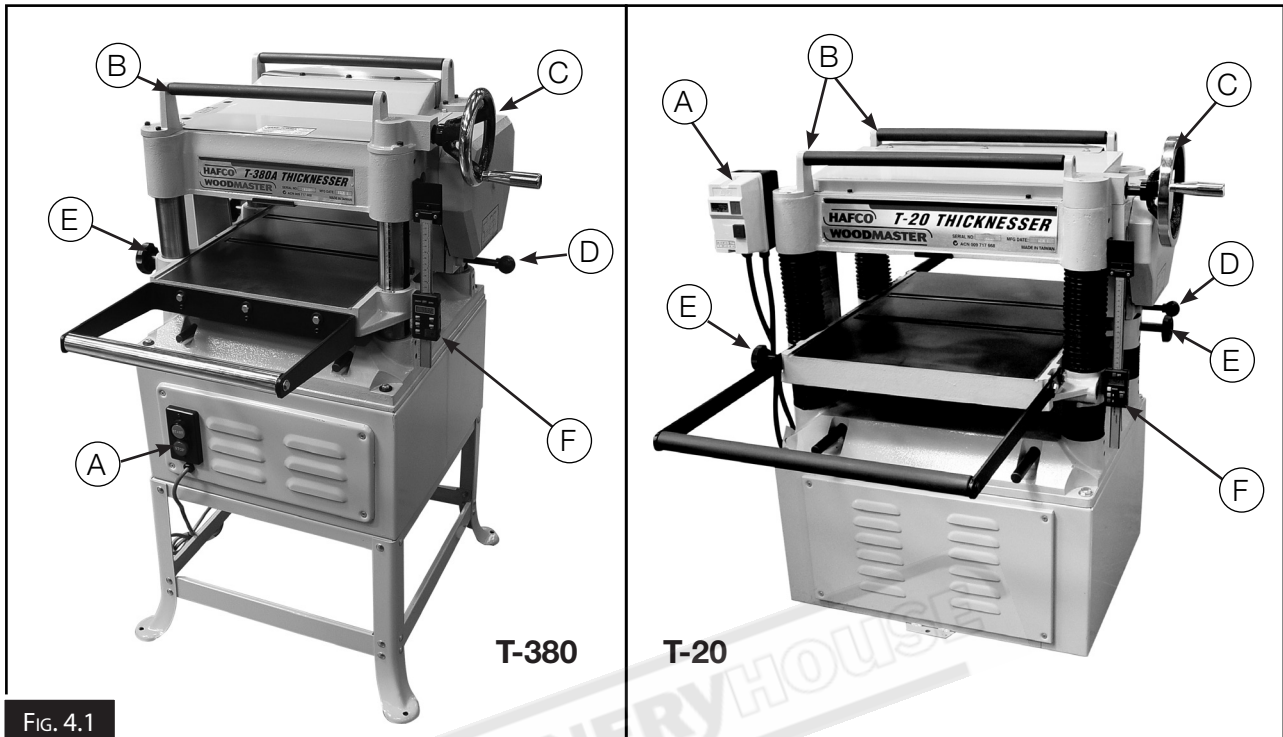

FIG. 4.1
The following descriptions will help you to become familiar with the basic controls of your machine. (Refer Fig. 4.1 on page 18)
5. Move the Feed Rate Control Lever (Fig. 4.1) to the correct position